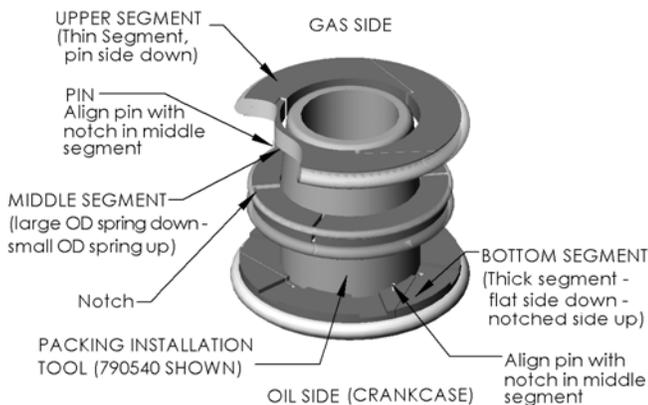

Figure 17b – S3R Oil Seal Orientation
- g. Install the S3R seal in the seal cup as shown in figure 17a. Place the S3R seal on the packing installation tool in the order shown in figure 17b, with the upper segment at the tapered end of the installation tool. Insert the installation tool, with the S3R seal, into the seal cup, with the tapered end toward the packing rings. Place seal cup cover on seal cup and secure with two capscrews